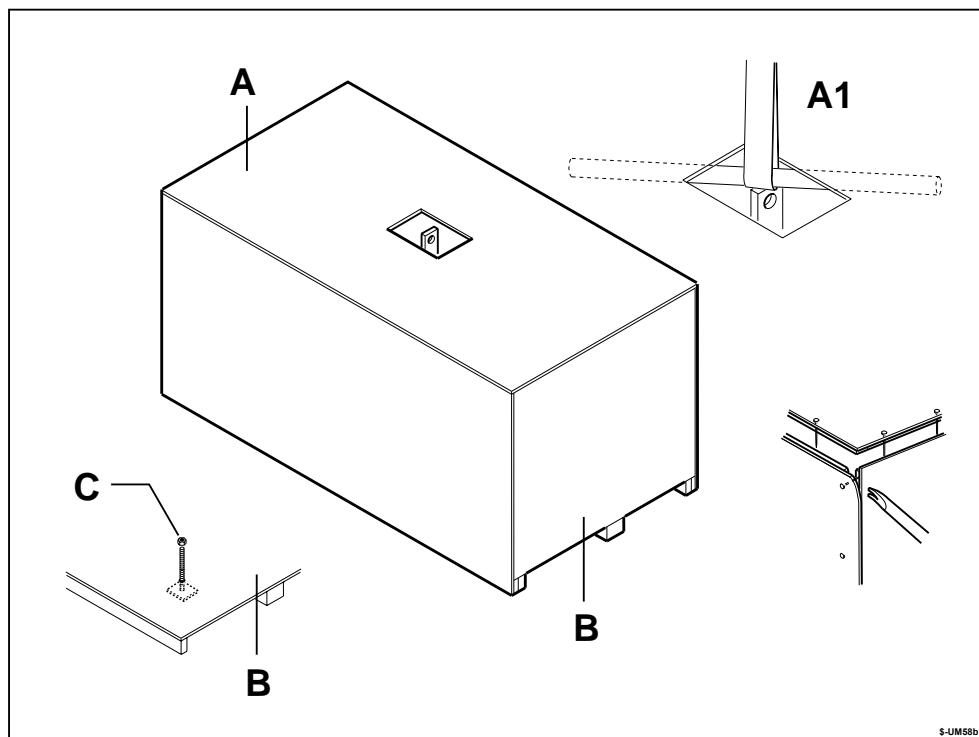

Fig. 2.1
- Support the cover A (Fig.2.1) as shown in detail A1